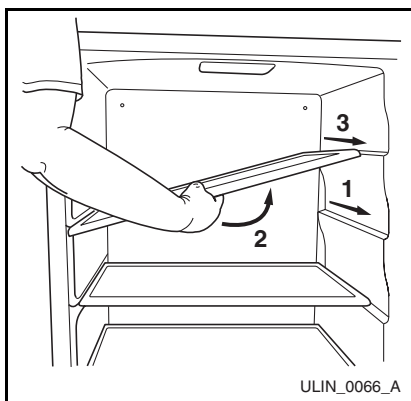

Figure 49
1. Pull shelf out about 6" (**Figure 49, 1**), until back of shelf clears the "hump" on the right-hand side.
2. Tilt up right-hand edge of shelf (**Figure 49, 2**).
3. Remove shelf from unit by pulling out (**Figure 49, 3**).